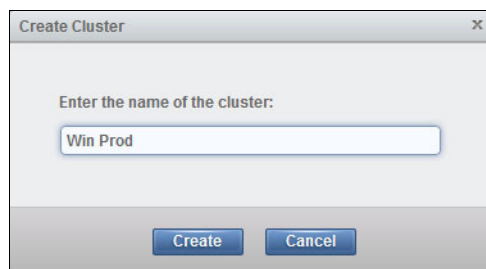

Figure 11-66 Create Cluster window
4. The Create Cluster window opens, as shown in Figure 11-66. Specify the name of the cluster, and click **Create**.